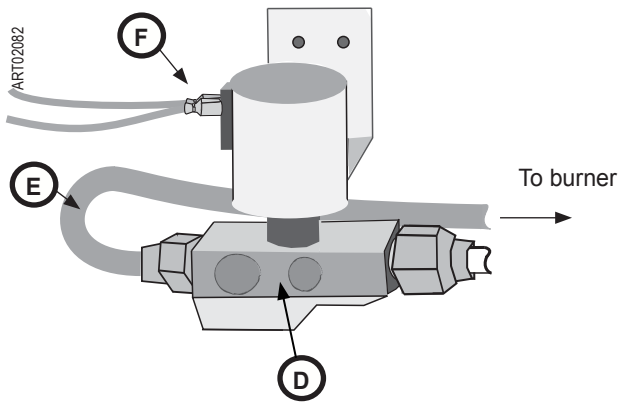

Fig. 7 - Gas Valve
4. At the gas valve (Fig.7,D), disconnect burner tube (Fig.7,E) running to burner; disconnect both wires at top of valve (Fig.7,F).